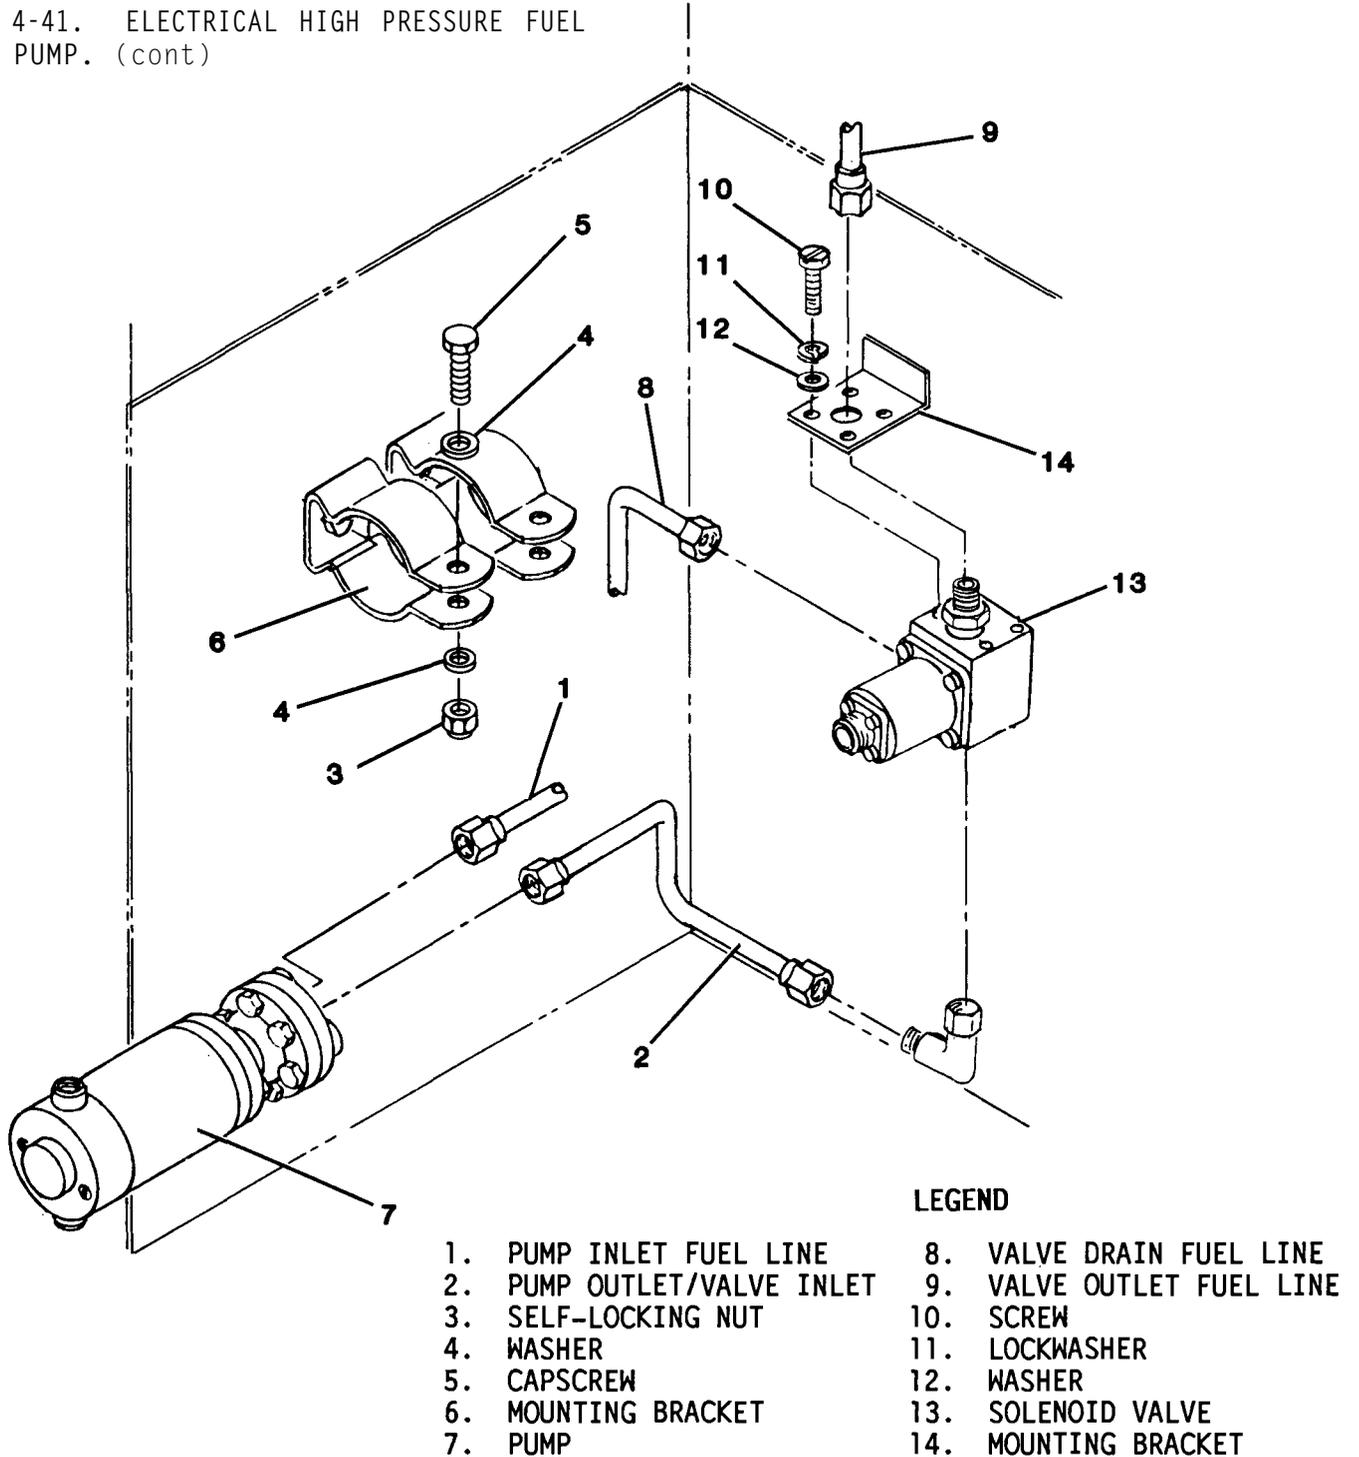

Figure 4-29. Electrical Fuel Pump (High Pressure) and Solenoid Valve Removal
(3) Tag and disconnect fuel pump electrical connector.
(4) Tag and disconnect fuel pump inlet (1, figure 4-29) and outlet fuel lines (2).
(5) Remove self-locking nuts (3), washers (4), and capscrews (5) that secure fuel pump (7), in mounting brackets (6).
(6) Remove pump (7).
(1) Gain access to fuel housing (paragraph 4-34a).
(2) Tag and disconnect solenoid valve electrical connector.
(3) Tag and disconnect valve inlet (2, figure 4-29) drain (8), and outlet (9) lines from solenoid valve (13).
(4) Remove screws (10), lockwashers (11), washers (12) and solenoid valve (13) from mounting bracket (14).